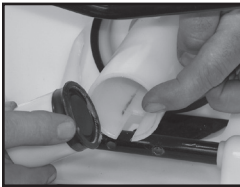

Figure 10
- 12) Apply Petroleum jelly to the inside of the piston cylinder wall and on the collar, and reinstall the piston assembly into the piston cylinder (Fig.10).